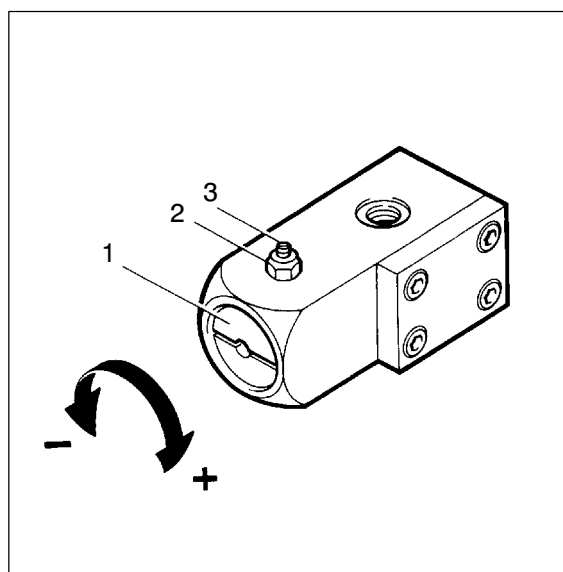

Fig. 16 Pressure maintaining valve
The pressure maintaining valve (Fig. 16) is adjusted at the factory to the required pressure and normally does not require regular maintenance or readjustment. In case of readjustment becoming necessary, loosen jam nut (2) and set screw (3). Adjust screw (1) to the required pressure using a suitable screw-driver.